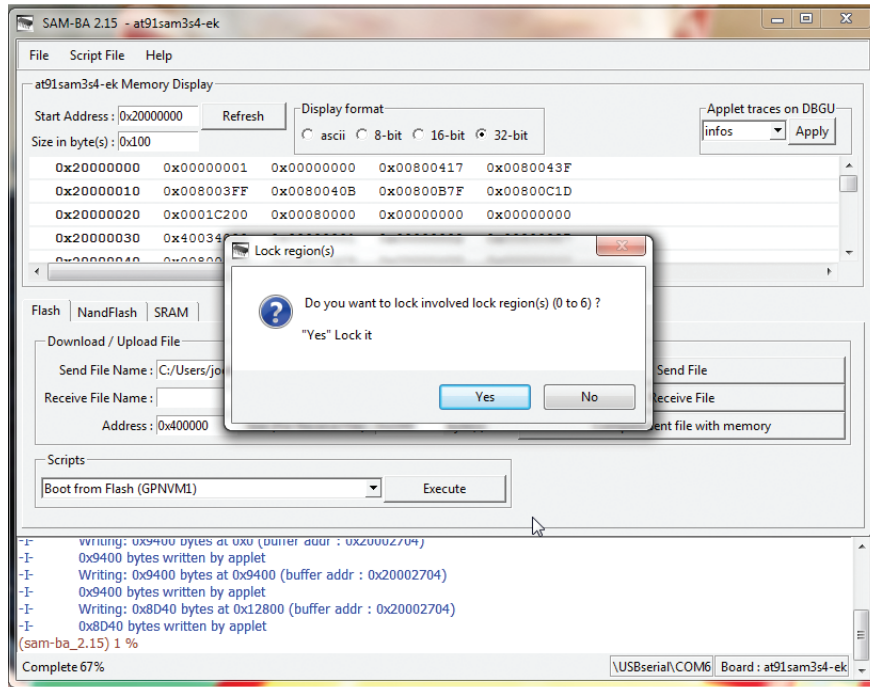

Fig. 45-1 Message Unlock Involved Lock Regions Window
- Click the button “Send File” to send the latest code into board. You will be asked to unlock the involved lock regions (0 to 6), click the button “Yes” to begin send code into board. Please see Figure 45-1.